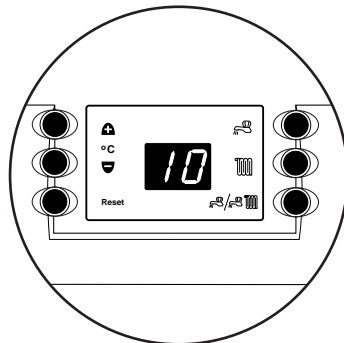

Fig. 36
b) Press the "+" Temperature Control Button twice so that the display shows "10" (Fig. 36) with the "0" indicating that the boiler is set for a maximum Central Heating output of 100,000 Btu/hr. 1 minute after the parameter has been set the display will revert to normal operation.